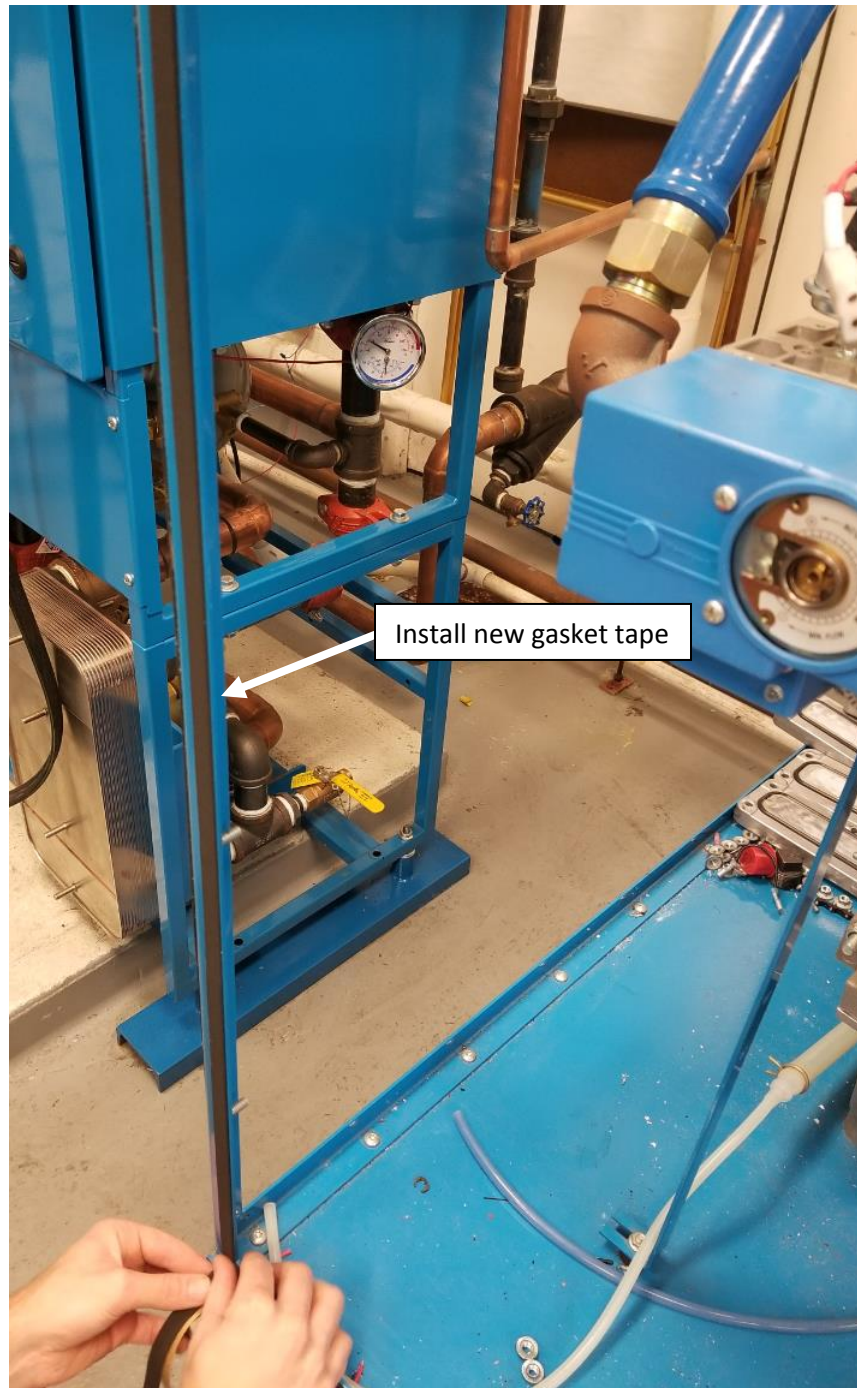

Figure 12
15. Using gasket tape supplied, tape the left side of the cabinet that does not have any shown in figure 12.